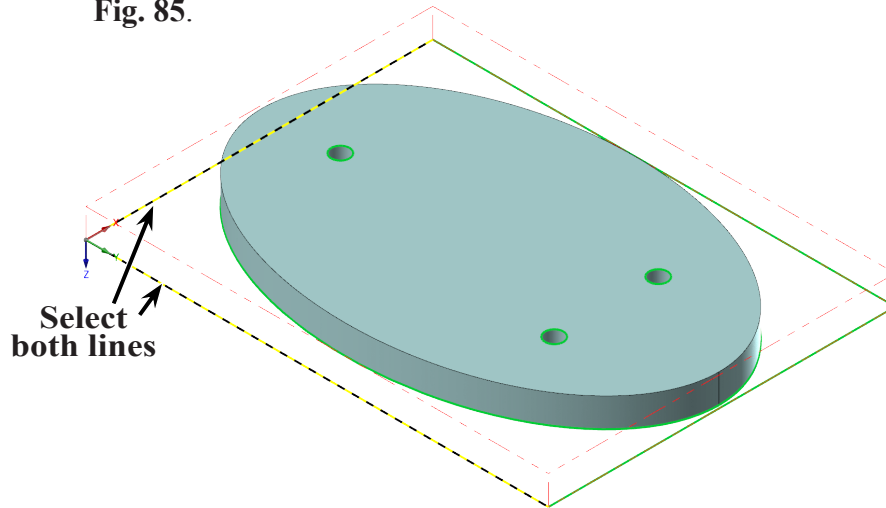

Fig. 85
Step 4. Click the **2 lines** in left corner to define construction plane, **Fig. 85**.